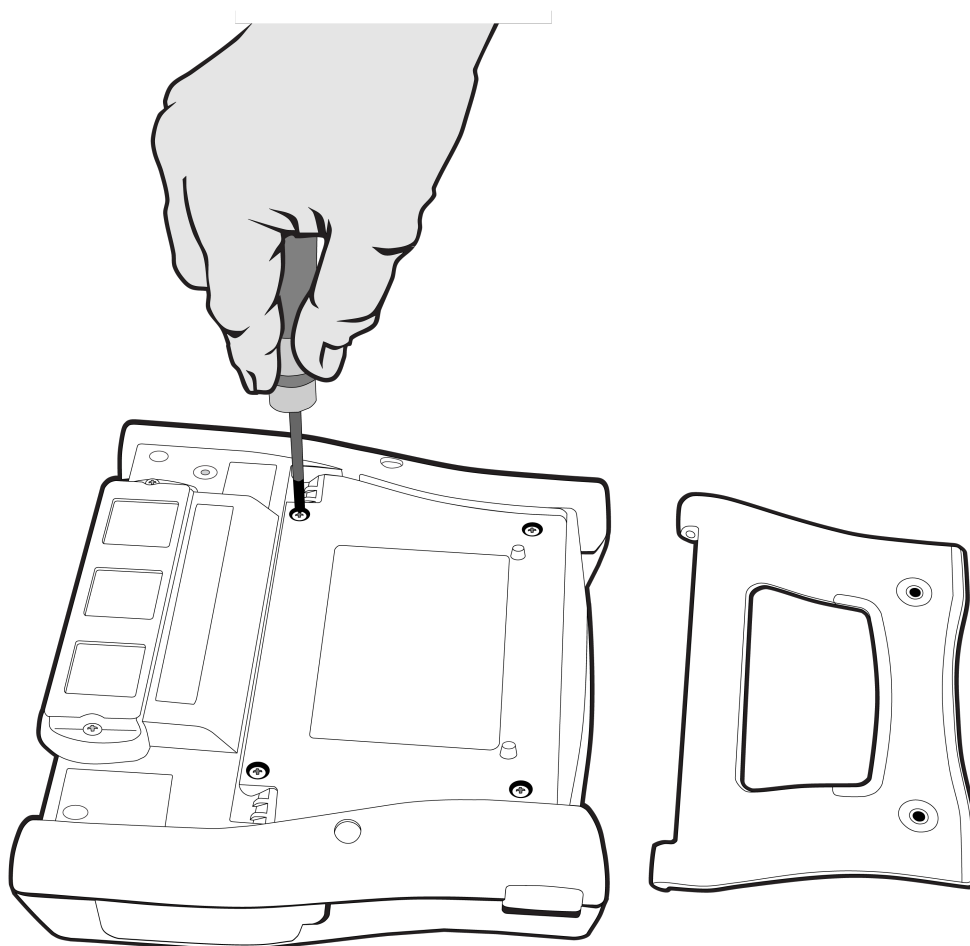

Figure 172: Replacing the battery pack
3. Unscrew the four screws securing the battery compartment cover (see Figure 172: Replacing the battery pack).